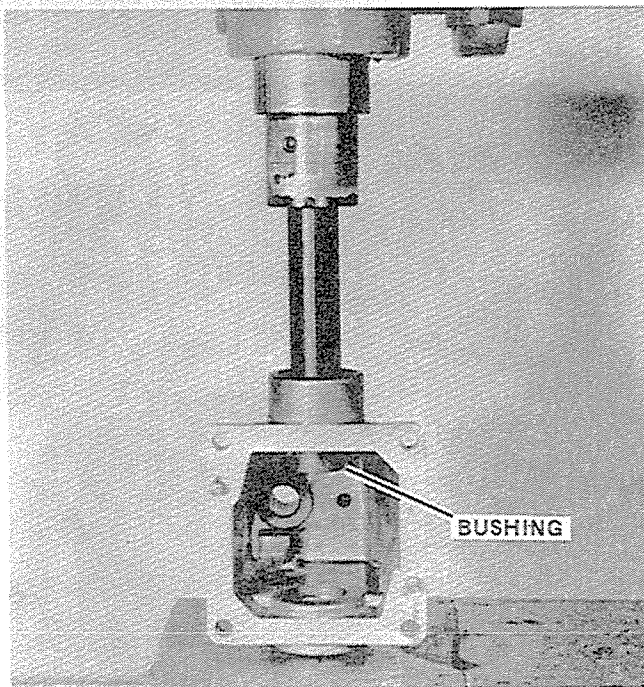

Figure 21
4. Measure the inside diameter of the rear PTO shaft bushing. The correct measurement is .9394 to .9374" (23.86 to 23.80 mm). If worn, it must be removed with a press (Figure 21) and a new bushing installed. It is not necessary to ream a new bushing to size.